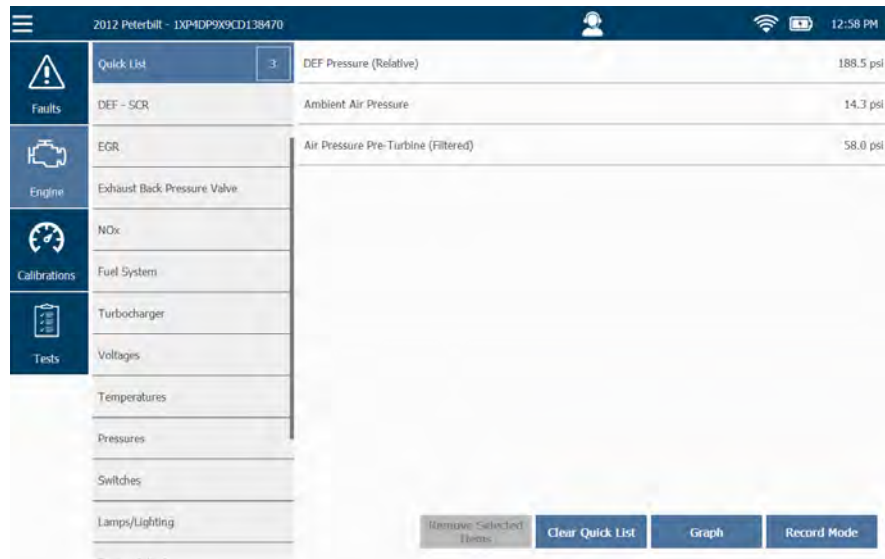
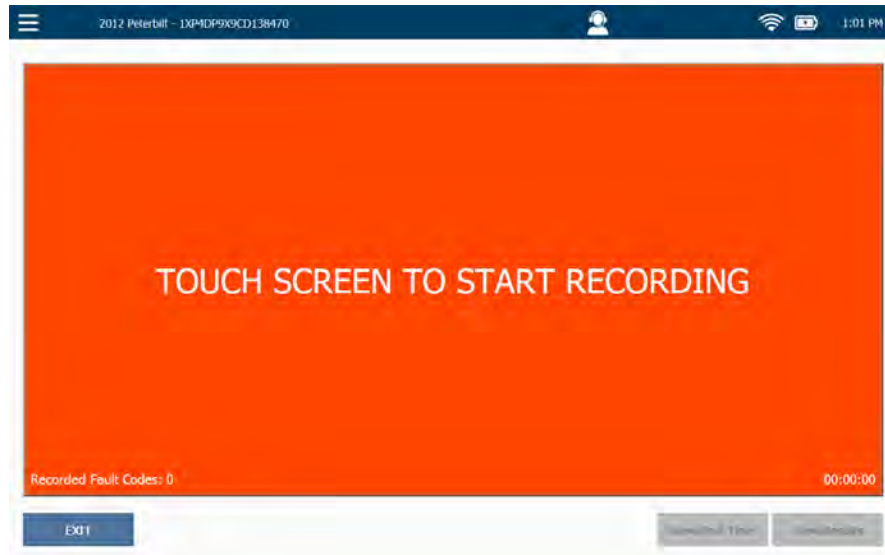

Figure 9.1 Quick List
Figure 9.2 Record Screen
STOP	<ul style="list-style-type: none"> • Ends a recording (you need to confirm that you want the recording to end). • Returns you to the Record screen (Figure 9.2). • Changes to EXIT once you stop the recording; the EXIT button takes you back to the list of parameters (Figure 9.1).
View Results	<ul style="list-style-type: none"> • Enables you to review in Playback Mode the recording you created. • You must confirm that you want to stop the recording prior to viewing results. <p>A number of buttons are available:</p> <ul style="list-style-type: none"> • Rewind—enables you to rewind to the start of the recording. • Play—starts the recording. Changes to the Pause button once the playback begins. • Previous Bookmark and Next Bookmark—enable you to jump from one bookmark to the next. • EXIT—takes you back to the Record screen (Figure 9.2).
The **Record** screen is displayed (Figure 9.2).
- 9 Touch **EXIT** to return to the Quick List (Figure 9.1).
- By touching the **View Results** button on the Record screen (Figure 9.2).